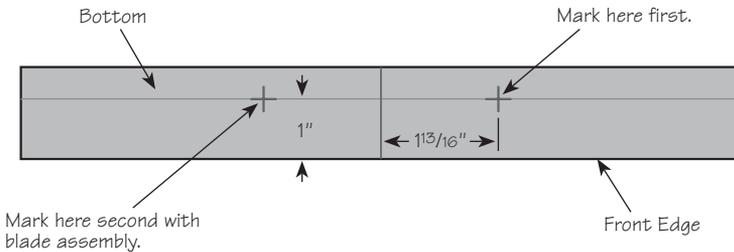

**Figure 2: Label each face of the blank.**
2. Use a pencil to mark the center of the length of your blank and draw a line all the way around the blank, as shown in **Figure 2**, using a square.
3. Use the included templates to transfer the top and side contours of the spokeshave onto the top and the side of your hardwood blank. If you will be making several spokeshaves, you may wish to glue the template onto a piece of thin plywood, non-corrugated cardboard or similar material and cut it out to make a more permanent template. Align the edge of the template marked "center" with the center of your blank and trace half of the outline onto your blank. Flip the template over to trace the other half. Mark the blank to indicate the top, bottom, front and back side of the spokeshave, as shown in **Figure 2**, so that they can be identified later.